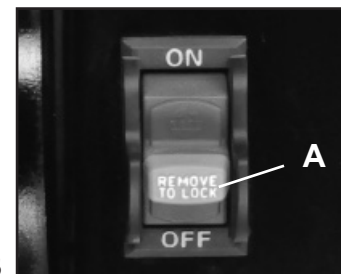

FIG. 13
The On/Off Locking Switch has a center Safety Key (A) that can be used to prevent unauthorized use of the dust collector. The switch needs to have the center key inserted before the machine can be used. Figure 13.